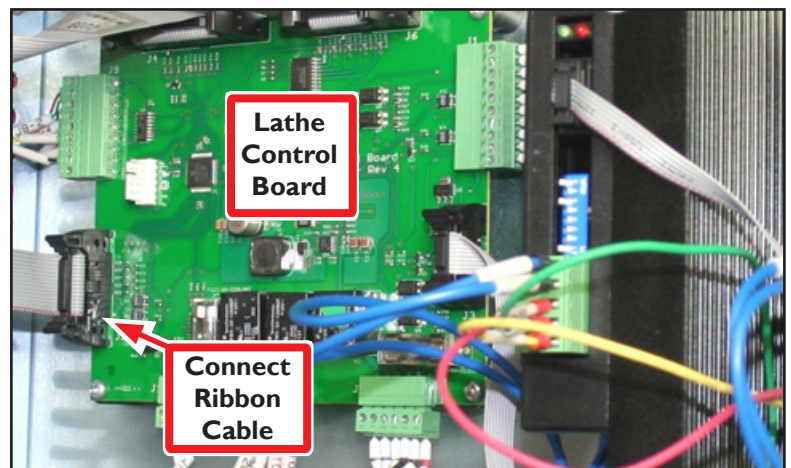

Figure 22
28. Route the other end of the Ribbon Cable through the wire trough and connect to the Lathe Control Board as shown in **Figure 22**.